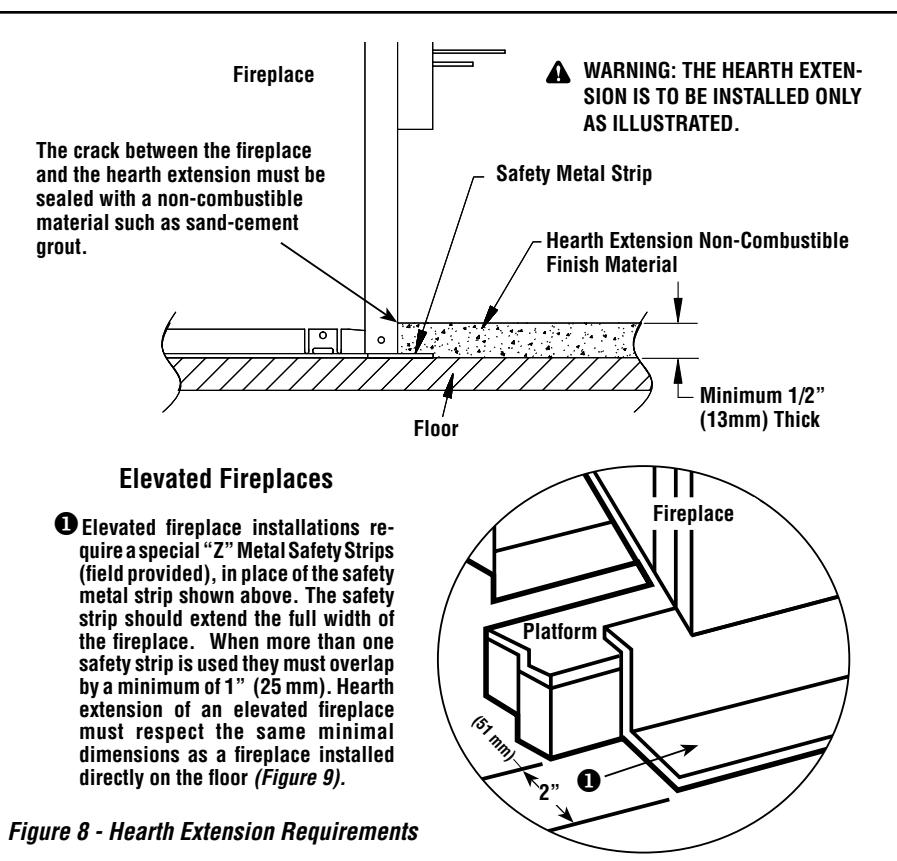

Figure 8 - Hearth Extension Requirements
The construction of the framing, facing, and mantel must be in accordance with the standards and the following illustrations (Figures 8 and 9):
- C. Frame the fireplace with vertical studs at the sides of the fireplace running from floor to ceiling (see Figure 8). If combustible facing is to be used, position the studs back, from the front edge of the fireplace (a space that is the thickness of the facing material, so that the facing can be installed flush with the fireplace facing). Frame headers between the vertical studs only as follows:
The fireplace may be installed directly on a combustible floor. The supplied safety metal strip must be positioned as follows: One half under the front of the fireplace and the other half must extend on the floor over which the hearth extension will be built (see Figure 8).